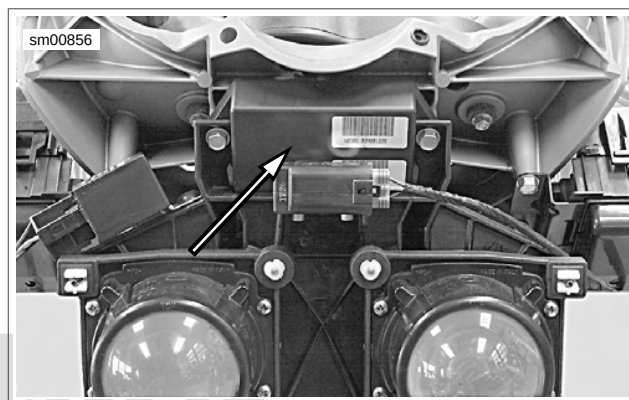

Figure 4-6. Electronic Control Module (ECM): Firebolt
4. See Figure 4-6 Remove Electronic Control Module (ECM). See 2.28 HEADLAMP ASSEMBLY AND SUPPORT BRACKET.